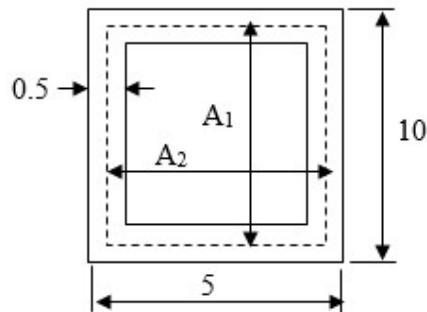

Figure 1
Q.4(c) Determine the maximum shear stress and angle of twist for a box section as shown in Figure 1. If it is subjected to twisting moment of 200 kg.m. Assume $G = 8 \times 10^5 \text{ kg/cm}^2$. All dimensions are in cm. [6]